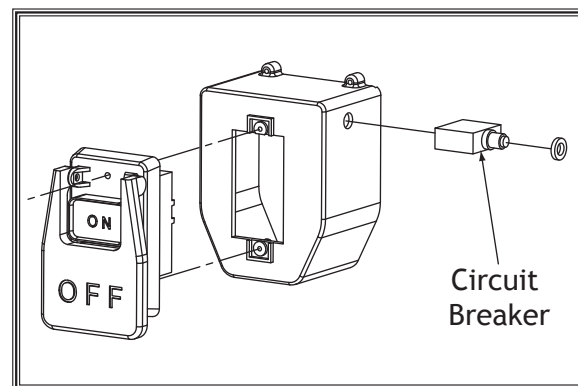

Figure 6. Location of switch circuit breaker.
6. Replace the pre-installed 10A circuit breaker (see **Figure 6**) with the 20A circuit breaker, then re-install the switch box.